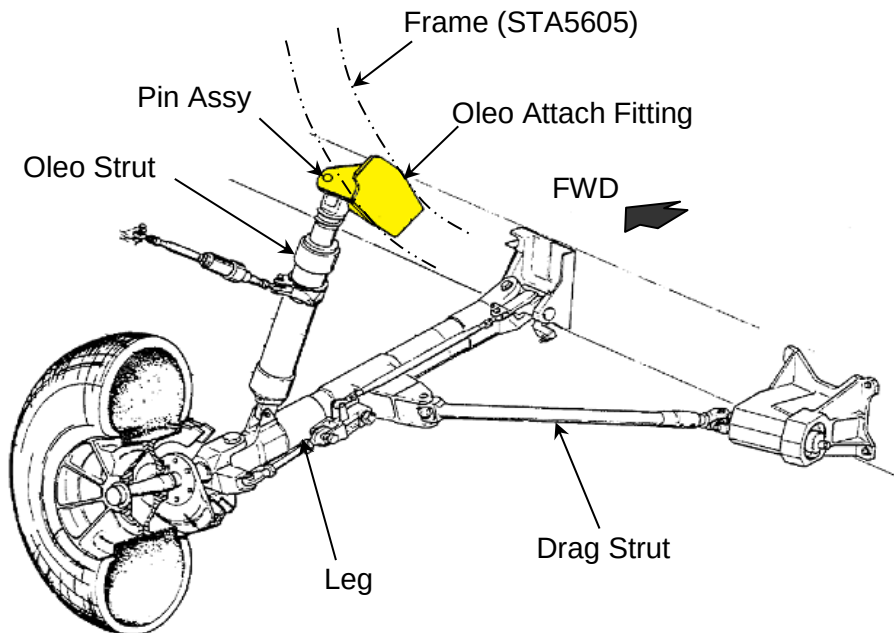

Figure 1: LOCATION OF FITTING LUG INSPECTION
- (1) Visually inspect the lugs of the oleo attach fittings on both sides for visible cracks. (Figure 1 & 2) Use a mirror and flashlight to check the entire surface of lugs of the fitting. If any cracks are found in the lug, replace with a new fitting in accordance with the applicable Maintenance Manual and discard the discrepant fitting.